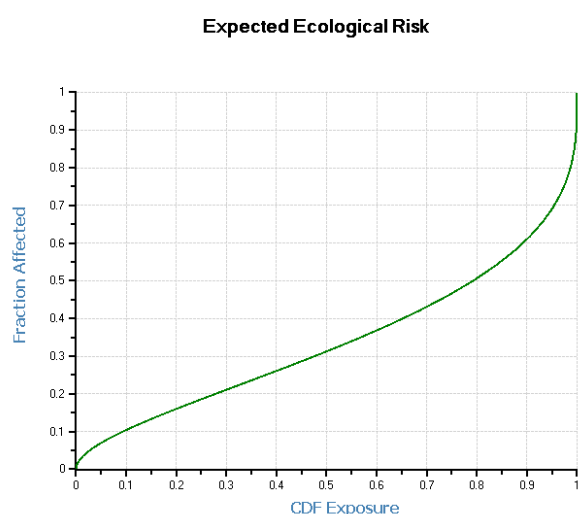

Figure 32. The joint probability curve belonging to the SSD from example 7.1 and the exposure data from example 7.3.
► Go to the **Joint probability curve** sheet (**Output, Graphics** section). The graph in Figure 32 should be displayed.